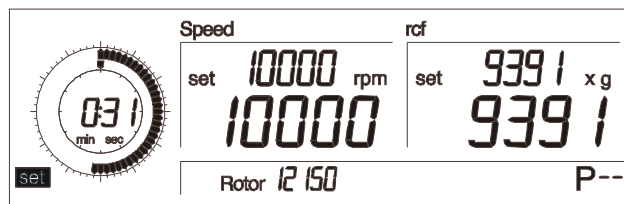

Fig. 5.11: Setting the time
- Turn the left rotary knob until “set” appears in the lower left area of the display (Fig 5.11).